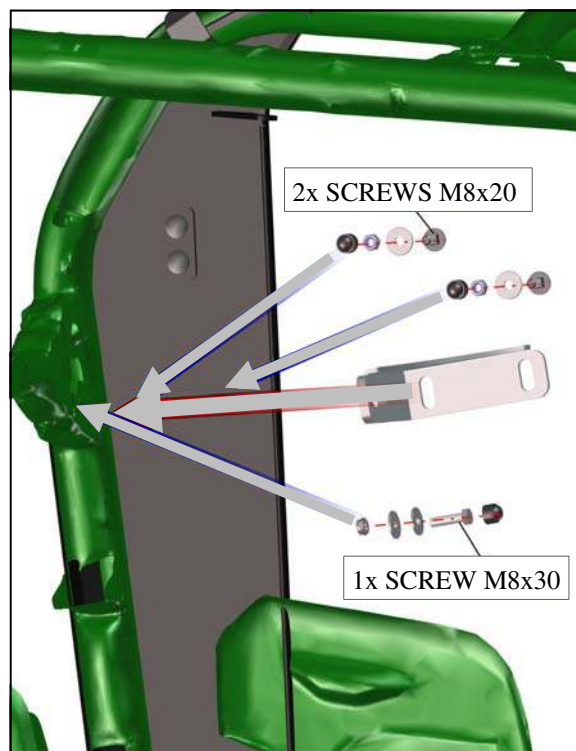

Fig. 2.4
**2.4** Per fig. 2.4, install the middle bracket onto the left door base with 2x M8x20 SCREWS and 1x M8x30 SCREW